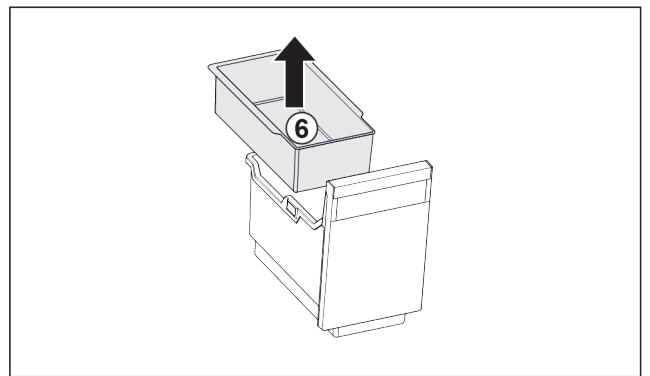

Fig. 34
- ▶ Remove the hang-on tray Fig. 34 (6).